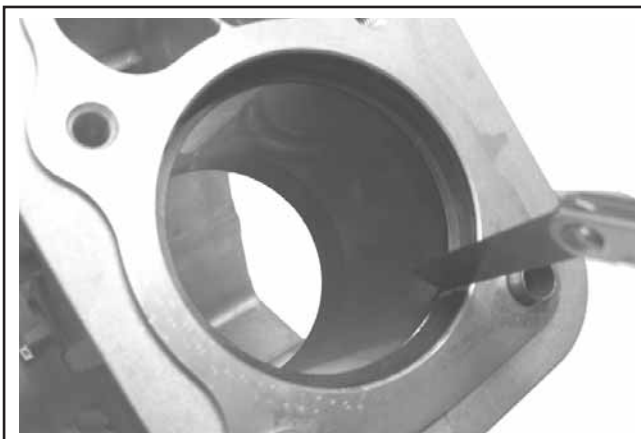

Figure 9-7. Measuring Piston Ring End Gap.
4. Before installing the new rings on the piston, place the top two rings, each in turn, in its running area in the cylinder bore and check the end gap. (See Figure 9-7.) Compare the ring gap to the measurements in Section 1, Specifications and Tolerances.